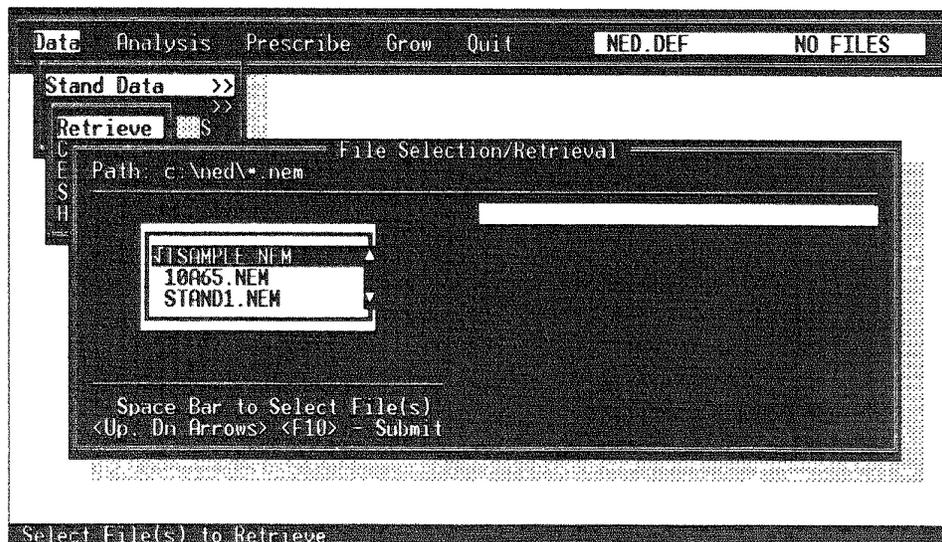

Figure 2. -- File Selection/Retrieval window.
**Operation:** The sequence of menu items just selected displays a window on your screen titled "File Selection/Retrieval" (Fig. 2). At the top of this window is the path showing the directory where NED/SIPS will look for files with the ".NEM" extension. Also, notice that a list of the stand data files that are in this directory is displayed within this window. This list is the file selection list. To select a file, move the cursor (using the arrow keys) to the file **TSAMPLE.NEM**, and press **[SPACE]**. A check mark will appear next to the file name. Although it is possible to select up to 20 files at once, for your first session, keep it simple and select only one. Now press **[F10]** to place that file in the input list and press **[F10]** again to submit the file **TSAMPLE.NEM** for retrieval. The status message at the bottom of the screen tells you that NED/SIPS is retrieving the selected file. When the retrieval is completed, the file name will appear on the right side of the menu bar at the top of the screen.